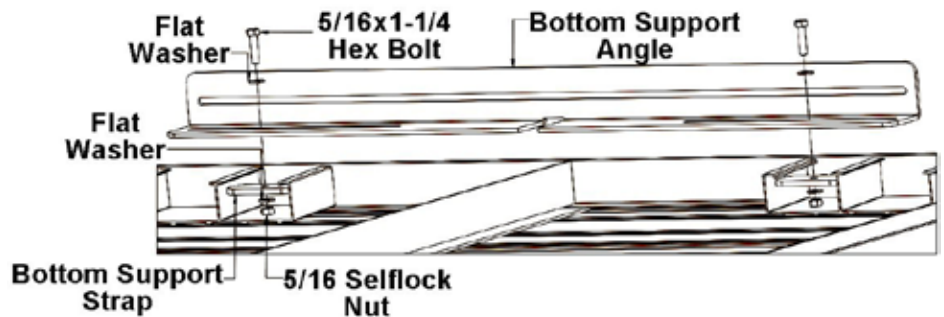

Fig.3.17
**3.7.1 Platform Long Leg Support Angle:** Install the bottom support angle before the platform handrail and legs are assembled. Set platform out upside down. Center one support angle to each of the four sides. Keeping the angles approximately 1 1/2" from the outside edge of the platform, face the side with the center notch against the platform plank, and the flat side of the angle to the outside of the platform. Place the bottom support straps in between the ribs of plank closest to both ends of bottom support angle, running a 5/16x1 1/4 hex bolt through the hole of the bottom support strap and the bottom support angle with a flat washer on both sides pinching the plank between the bottom support angle and bottom support strap (**Fig.3.17**). Return to **Section 3.1** on page 13 to install the platform handrail and legs.